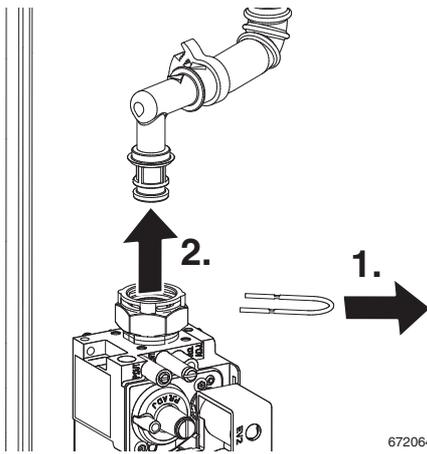

Fig. 86 Gas valve connection
1. Refer to figure 86 and remove the clip from gas valve outlet.